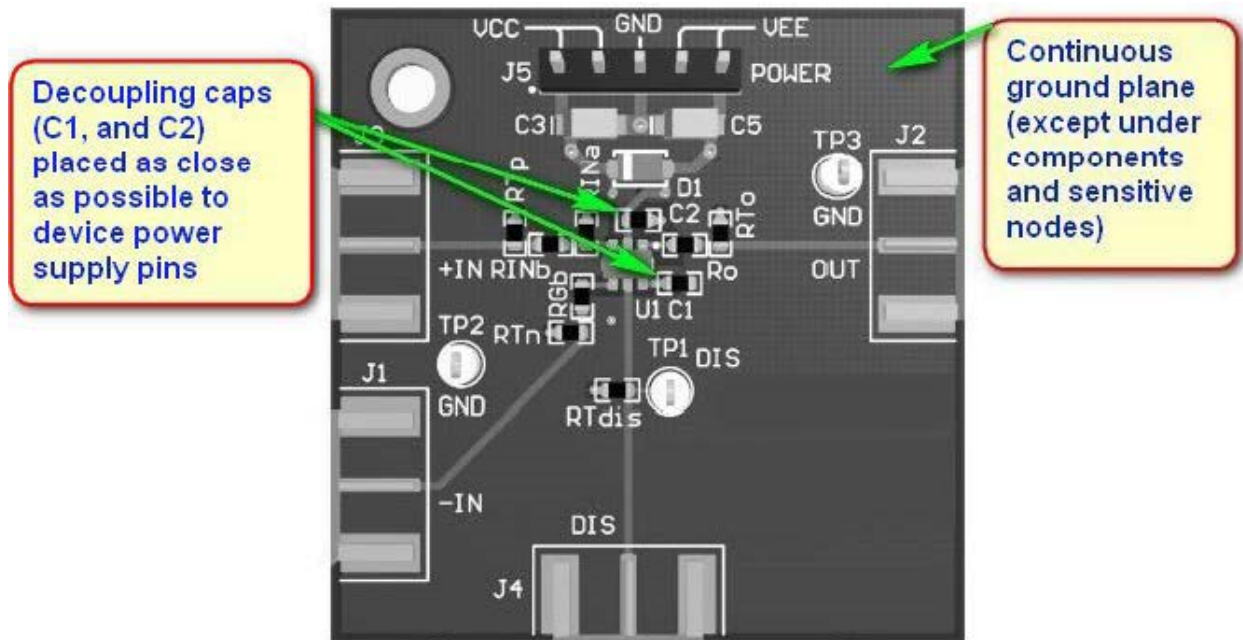
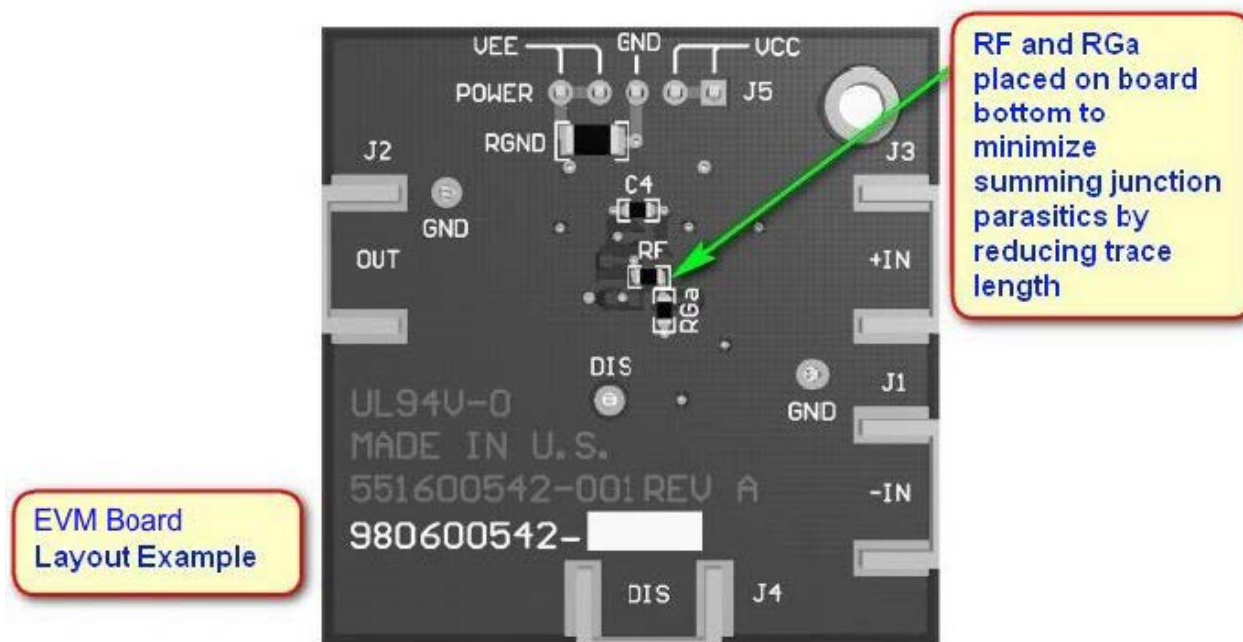

Figure 33. Evaluation Board Layer 1
Figure 34. Evaluation Board Layer 2
- Continuous ground planes are preferred for signal routing, as shown in Figure 33 and Figure 34, with matched impedance traces for longer runs. However, open up both ground and power planes around the capacitive sensitive input and output device pins.
- Use good, high-frequency decoupling capacitors (0.1  $\mu\text{F}$ ) on the ground plane at the device power pins as shown in Figure 33. Higher value capacitors (2.2  $\mu\text{F}$ ) are required, but may be placed further from the device power pins and shared among devices. For best high-frequency decoupling, consider X2Y supply-decoupling capacitors that offer a much higher self-resonance frequency over standard capacitors.
- The input summing junction is very sensitive to parasitic capacitance. Connect any  $R_f$  and  $R_g$  elements into the summing junction with minimal trace length to the device pin side of the resistor, as shown in Figure 34. The other side of these elements can have more trace length if needed to the source or to ground.